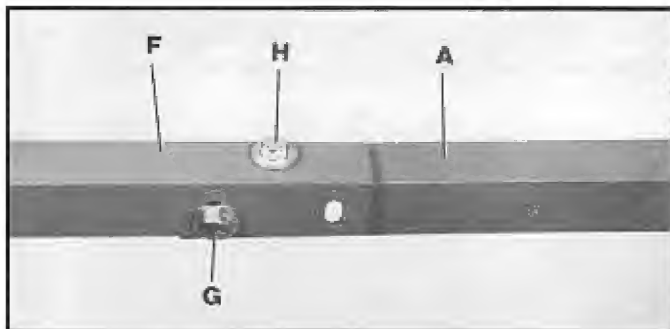

Fig. 11
4. Assemble lower leg section (F) Fig. 11, over upper leg (A) as shown using two 1 1/2 inch-long screws, (G) and (H) Fig. 11, four flat washers, two lockwashers and hex nuts. **NOTE:** Assemble screw (G) Fig. 11, first. **IMPORTANT:** Lower leg (F) must overlap leg (A). Do not completely tighten hardware at this time. Adjustments will be necessary after unit is upright.